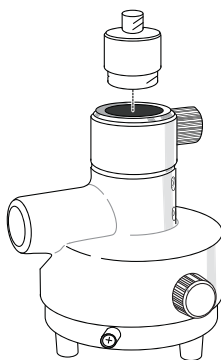

Figure 1-14. Precision Tribrach Adapter and Horizontal Spacer
**The precision tribrach adapter** (Figure 1-14) is used to precisely center, align, and level the tripod over a point. The horizontal spacer (p/n 60419) inserts into the precision tribrach and allows the receiver to sit securely on the precision tribrach.